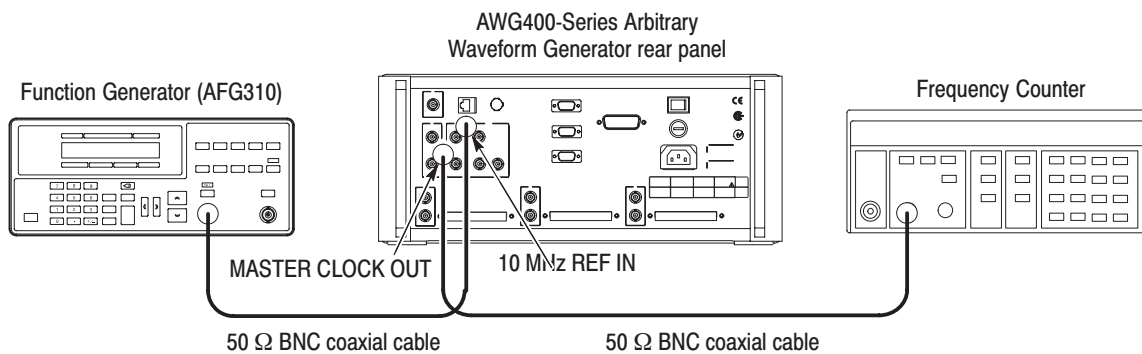

Figure 4-37: 10 MHz reference input initial test hookup
- b. Use a 50 Ω BNC coaxial cable to connect the AWG400-Series 10 MHz REF IN connector to the function generator output connector (see Figure 4-37).